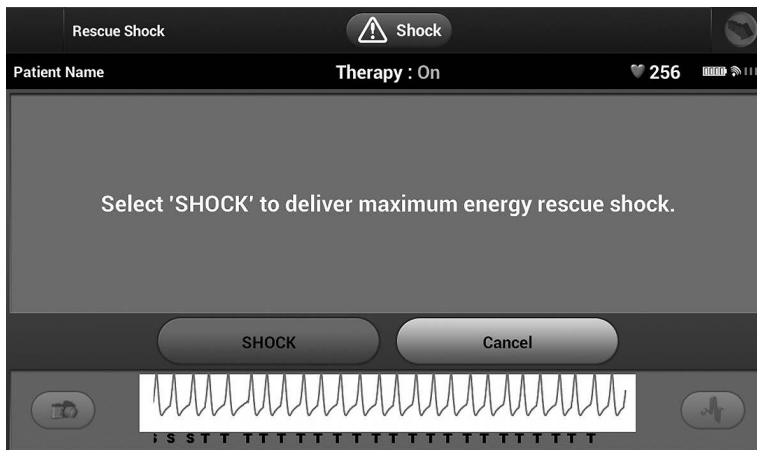

Figure 23: Rescue Shock screen
1. Select the red Rescue Shock Icon at the top of the Programmer screen. The Rescue Shock screen appears (Figure 23).